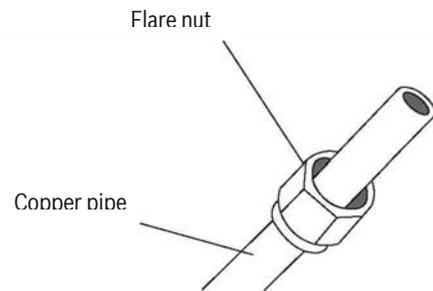

Fig. 7.4
3. Place flare nuts correctly on both ends of the pipe before flaring. See Fig. 7.4